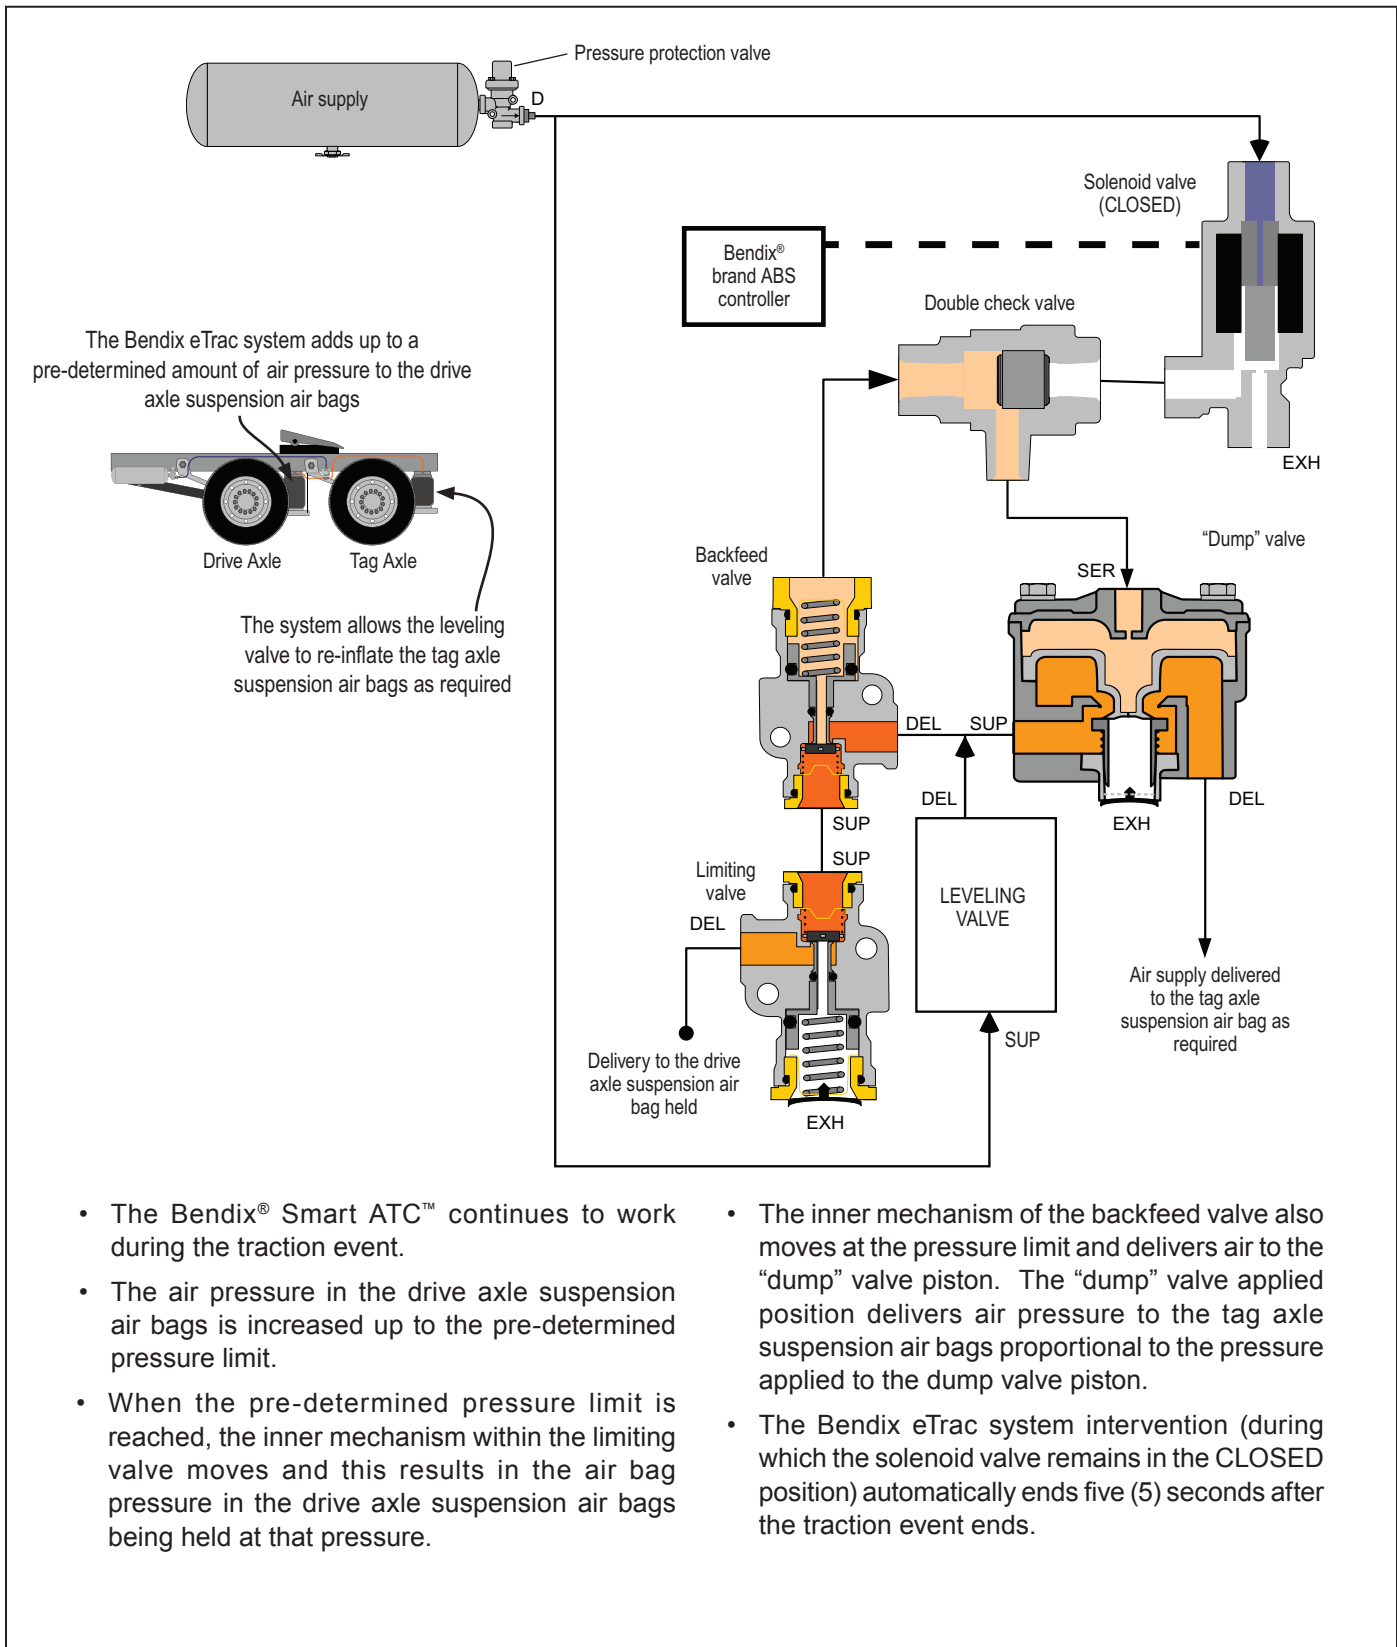

FIGURE 5 - BENDIX® eTrac™ SYSTEM PRESSURE-LIMITING MODE
- The **Pressure-Limiting Mode** prevents system air pressure delivery to the drive axle suspension air bags above a pre-determined maximum pressure. The system will then — using the backfeed valve — permit the leveling valve to add air back into the tag axle suspension air bags as needed. *See Figure 5.*
During the *Pressure-Limiting Mode*, the control port of the “dump” valve receives air pressure from the backfeed valve. This re-inflates the tag axle suspension air bags as required. *See Figure 5.*
See Figure 5.
Figure 5 shows the Bendix eTrac system in its *Pressure-Limiting Mode*.